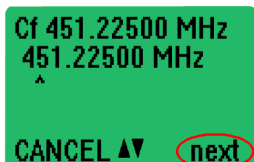

Figure 66: Next Digit
- a. Press the *next* soft key to move the cursor to the next digit (see Figure 66).